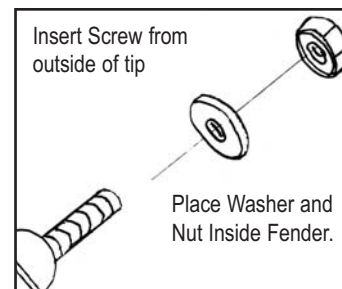

Figure 5
7. Position the Fender Tip and insert the Screws from the outside. Install the Washers and Nuts. Tighten securely. **Figure 5.**